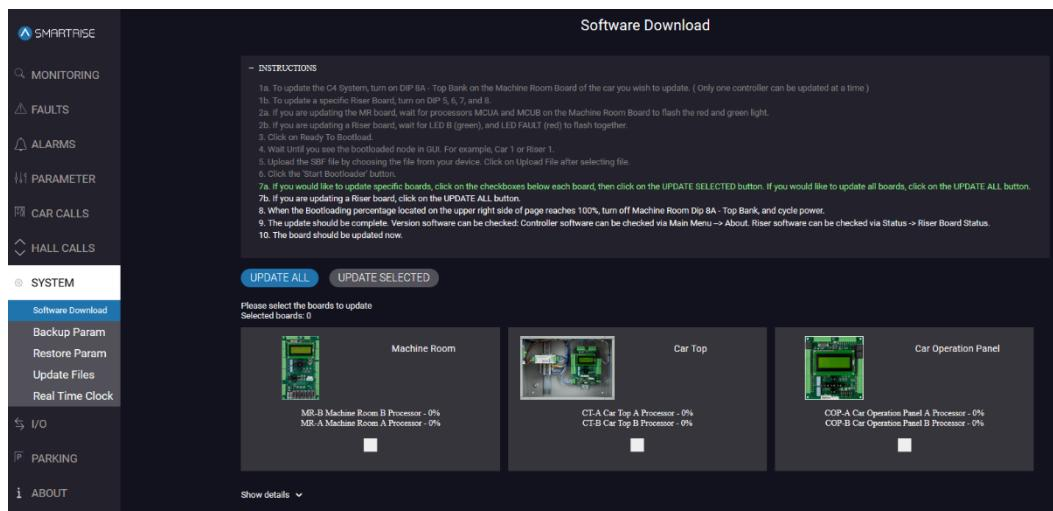

Figure 36: SYSTEM Screen – Software Download – Selected Board
4. The process then returns for the user to select the board to be updated. See Figure 36. Wait until the MR LCD displays "READY" before attempting another download. If started too soon, the download process will fail again.